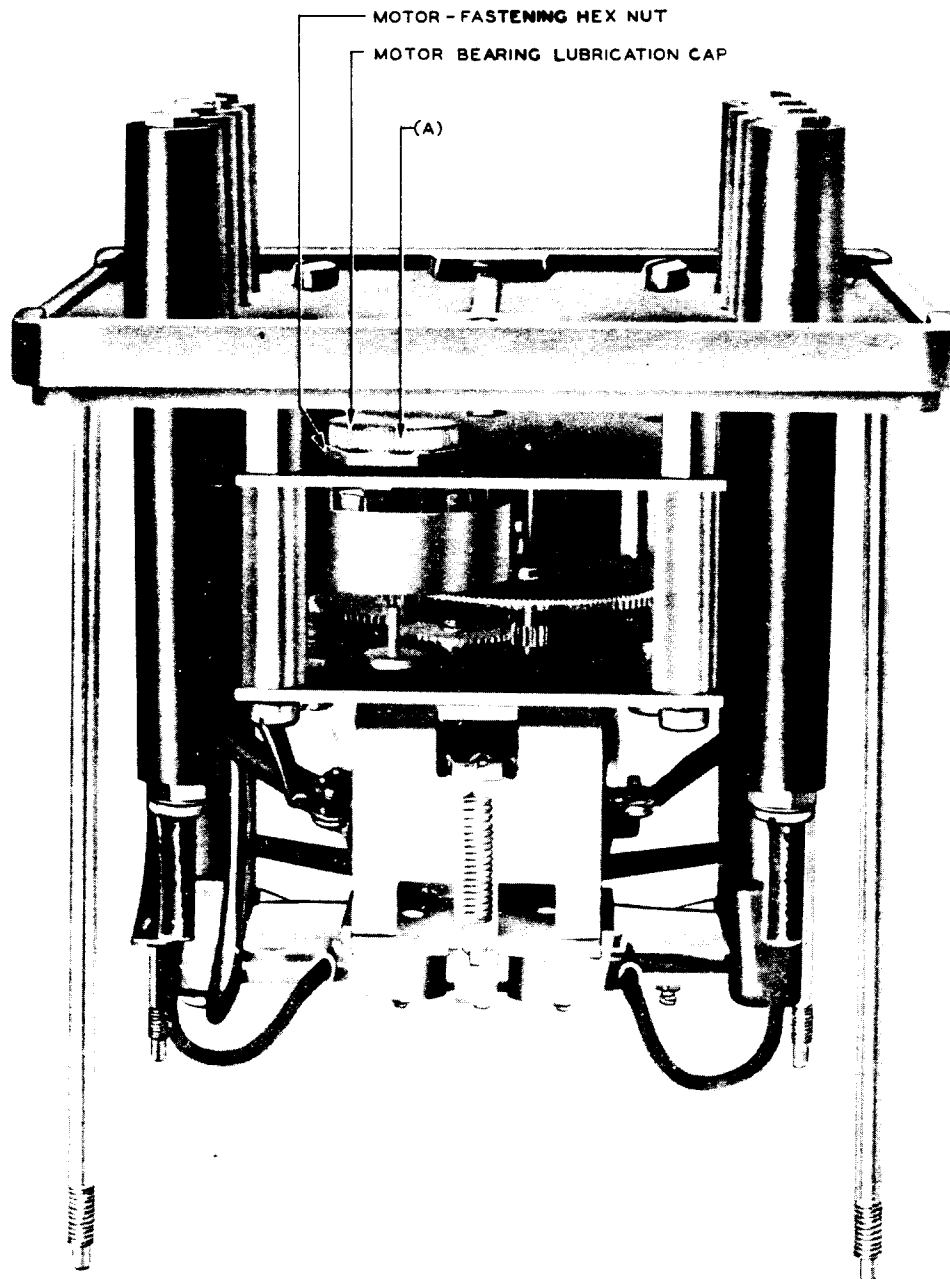

Fig. 3 - Motor Bearing
- \* (b) Fig. 3(A) — The motor bearing of the relay not equipped with an oiling device shall be adequately lubricated with the Westinghouse Electric Corporation No. S-1723639 oil. When lubrication is necessary, the oil shall be applied to the bearing packing.